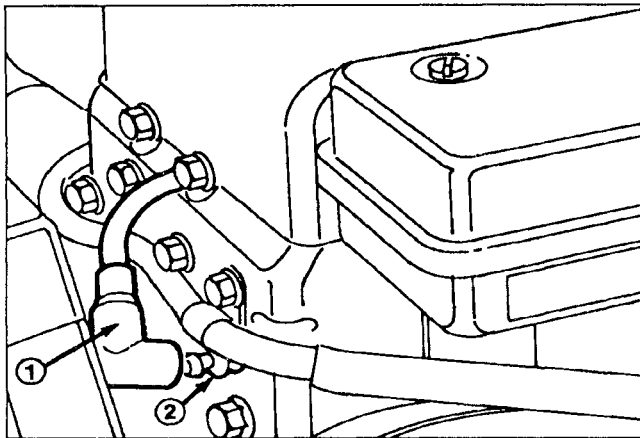

Figure 17
2. Pull wire off spark plug and remove plug from cylinder head (Fig. 17).